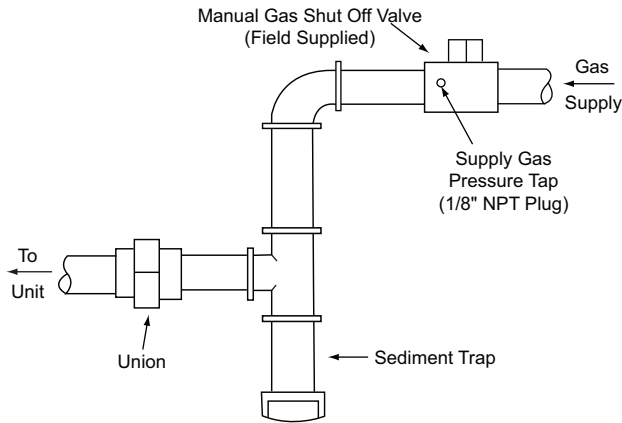

Fig. 6 — Field Gas Piping
2. Connect a pressure gauge to the supply gas pressure tap, located on the field-supplied manual gas shut off valve (see Fig. 6).